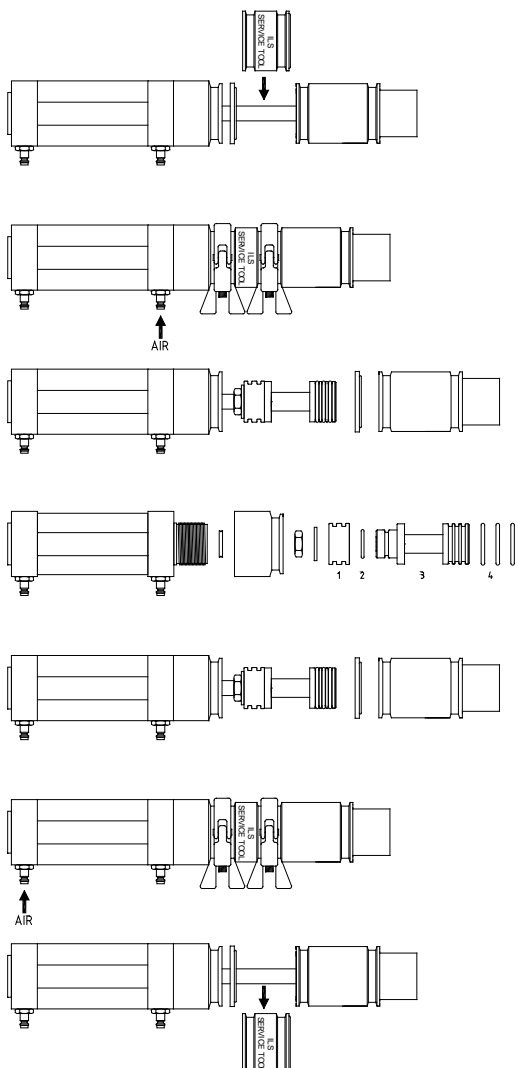

Fig. 5.6a
Replace the seals on the plunger (3 in fig 5.6a), 3x Viton large(4), 1 Viton small(2) and 1 Teflon(1). Loosen the black protection cover from the cylinder to replace the x-ring on the axle.